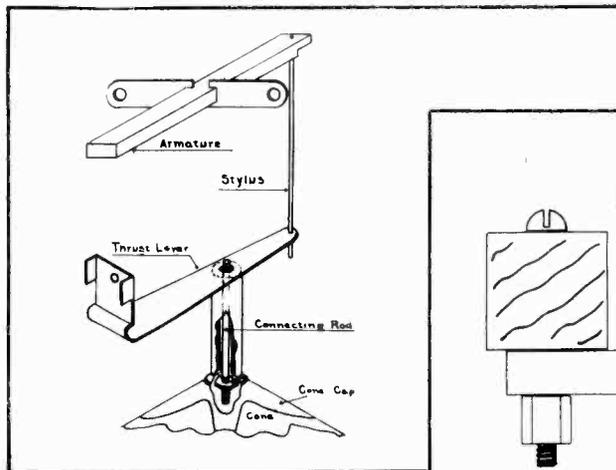

Fig. 1—Moving part of motor
Figure 1 shows a rough sketch of the complete armature assembly and its relation to the cone. The armature vibrates between the pole pieces (not shown), this motion being transmitted through the stylus to the thrust lever. The thrust lever is held rigidly to one of the motor side pieces. It is attached rigidly to the cone by the connecting rod. Dirt at any of these points may cause distortion.
On inspecting the RCA Model 100 Loudspeaker, note whether or not the stylus is bent, if so straighten it. The cone is attached to the connecting rod by means of a small nut "B", Figure 1. The end of the connecting rod is threaded. Make certain that the cone is drawn up tight to the connecting rod.
2. Remove the small nut holding the cone to the connecting rod shown in Figure 1.
9. Unsolder the thrust lever from the stylus and remove Point "E", Figure 1.